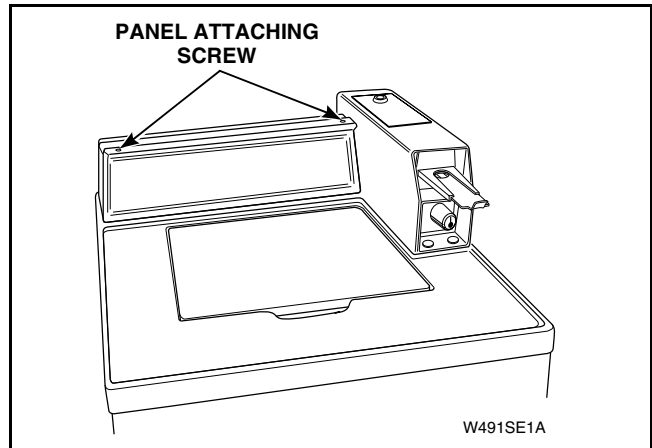

Figure 5
- (1) Remove two control panel attaching screws. Refer to *Figure 5*. Lay assembly forward on a protective pad on cabinet top.
- (1) Remove two control panel attaching screws. Refer to *Figure 5*. Lay assembly forward on protective pad on cabinet top.
- (2) Disconnect wires from light.
- (1) Remove two control panel attaching screws. Refer to *Figure 5*. Lay control panel assembly face down on protective padding.
- (2) Press in on locking tabs and unplug harness disconnect blocks from backside of
- (1) Remove control panel attaching screws. Refer to *Figure 5*. Lay assembly forward on protective pad on cabinet top.